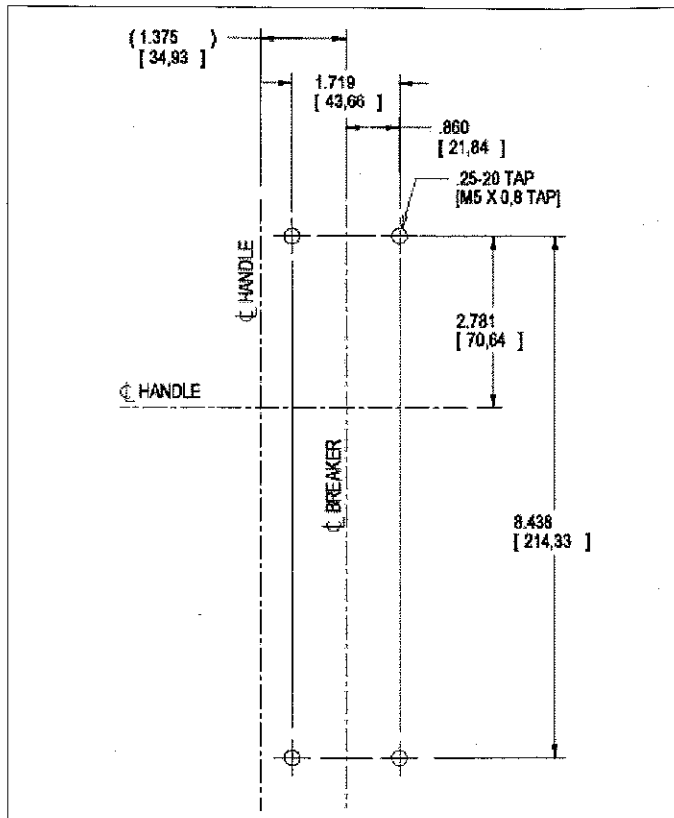

Fig. 2-1 Drill & Tapping Plan for K-Frame Breaker
1. Determine position for circuit breaker in enclosure. Drill and tap circuit breaker mounting holes in enclosure mounting surface as shown in Figure 2-1.